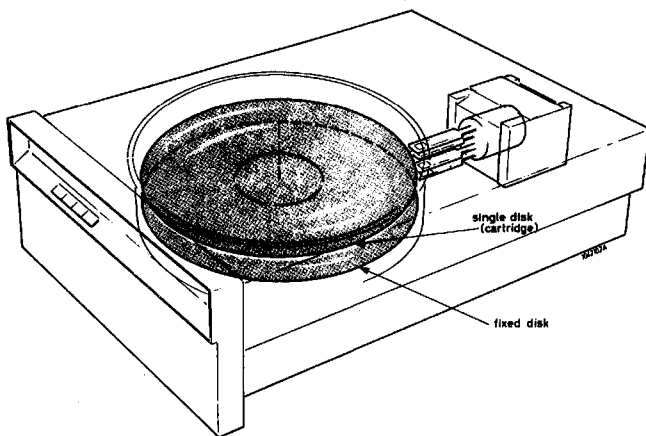

Figure 1-3 Fixed disk and single cartridge
1.2 FIXED DISK AND SINGLE DISK CARTRIDGE (figure 1-3)